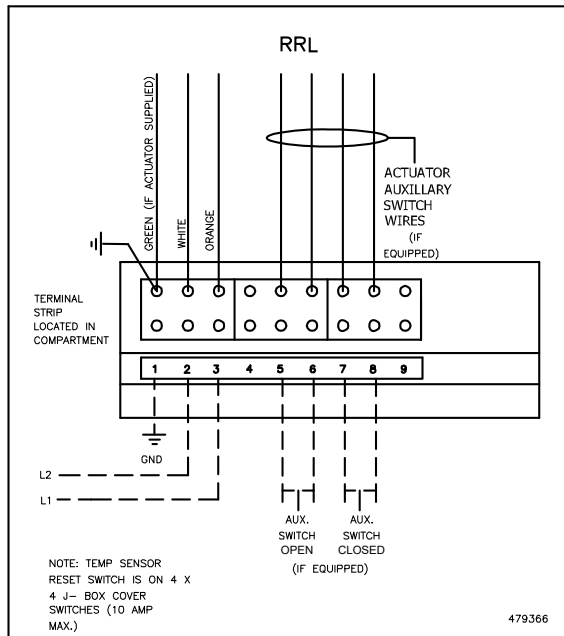

Figure 19: RRL wiring diagram
**RRL** - The RRL (reusable resettable link) incorporates one thermostat. When the thermostat temperature is reached the sensor interrupts power to the actuator and the actuator's spring return mechanism causes the damper to close. Refer to **Figure 19** for wiring of the RRL thermostat.